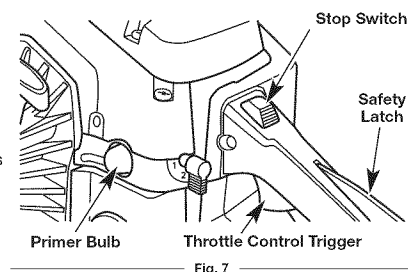

Fig. 7
1. Move the stop switch down to the RUN position (Fig. 7).
2. Fully press and release the primer bulb 10 times, slowly (Fig. 7). Some amount of fuel should be visible in the primer bulb. If fuel cannot be seen in the bulb, press and release the bulb until fuel is visible.
2. Move the stop switch up to the STOP position (Fig. 7).